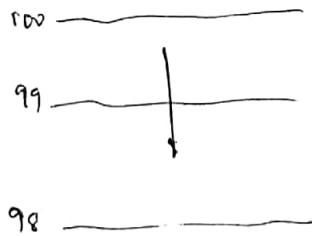

Fig 2b. Flat Slope.
- ii) widely spaced contours indicate flat slope (Fig 2b)